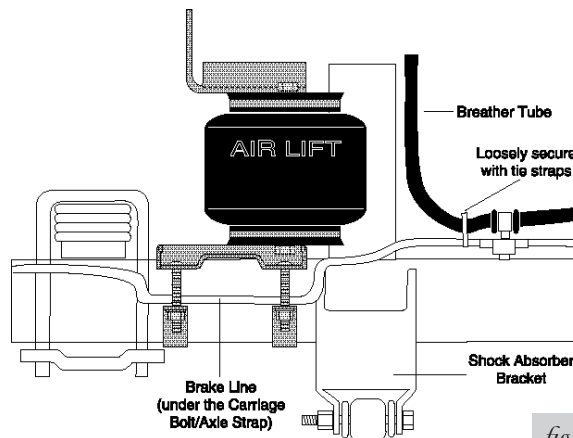

fig. 6
Non-Disc Brake Models Only: The brake line should be between the carriage bolt and the axle housing (Figure 6).
5. On the Driver Side Only: Secure the breather tube away from the bellows using provided tie straps (BB). Refer to Figure 6.
6. With the unit aligned vertically and horizontally, tighten the lower assembly to the axle housing. It is important to tighten the forward straps to the lower bracket first, and then the back. Tighten the lock nuts (J) to 16 ft-lbs.